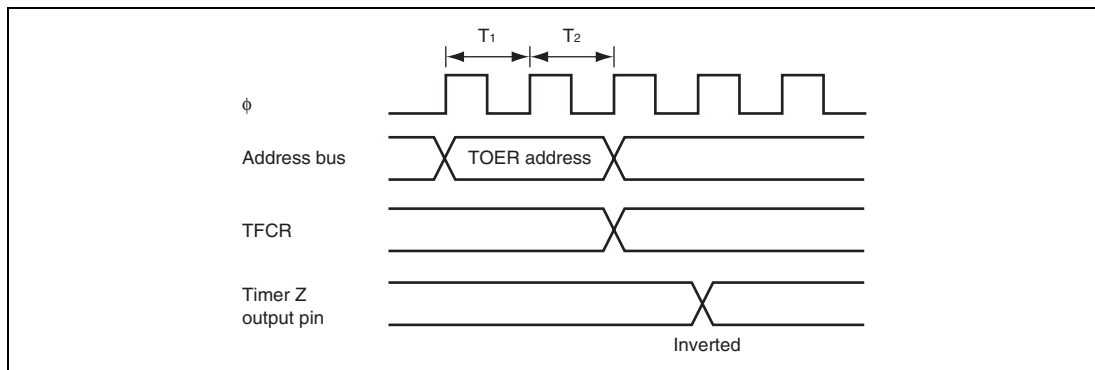

Figure 12.46 Example of Output Inverse Timing of Timer Z by Writing to TFCR
3. Output Inverse Timing by TFCR: The output level can be inverted by inverting the OLS1 and OLS0 bits in TFCR in reset synchronous PWM mode or complementary PWM mode. Figure 12.46 shows the timing.